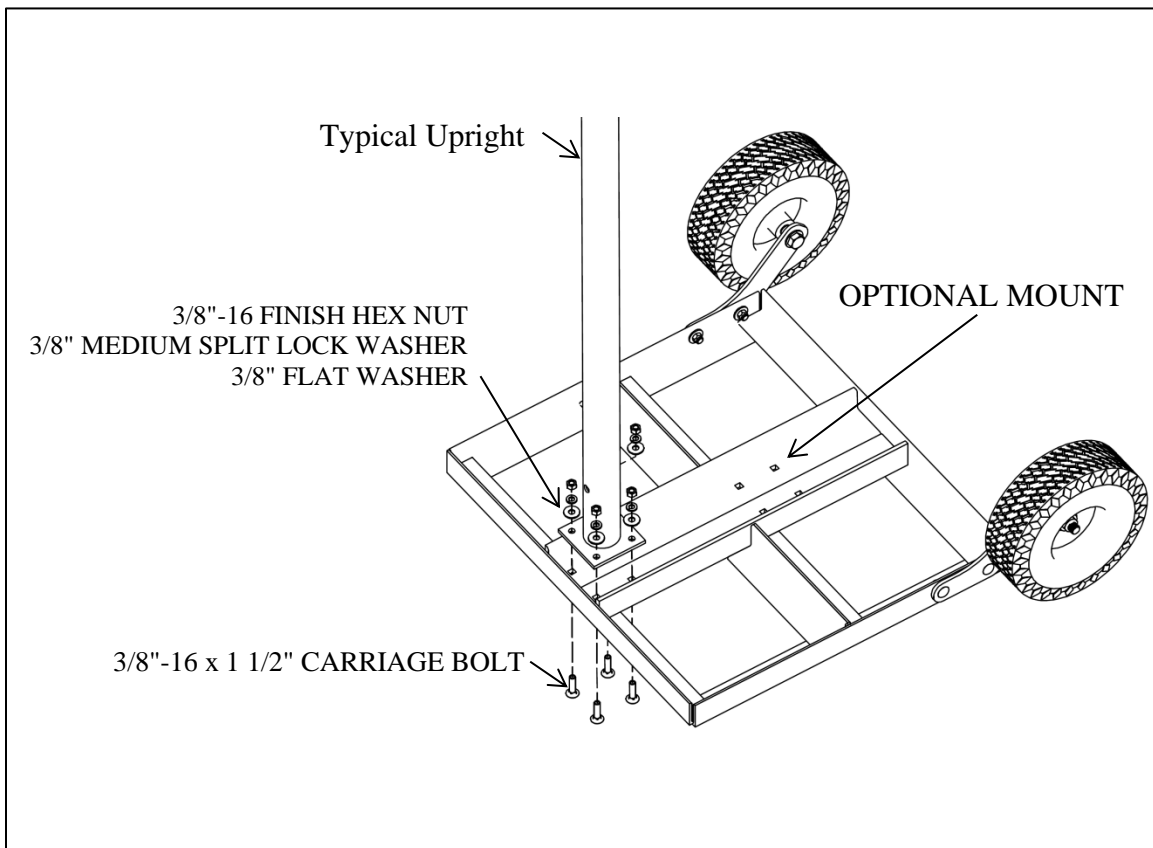

Figure 6
2. Assemble Uprights onto the base frame as shown (Figure 6).